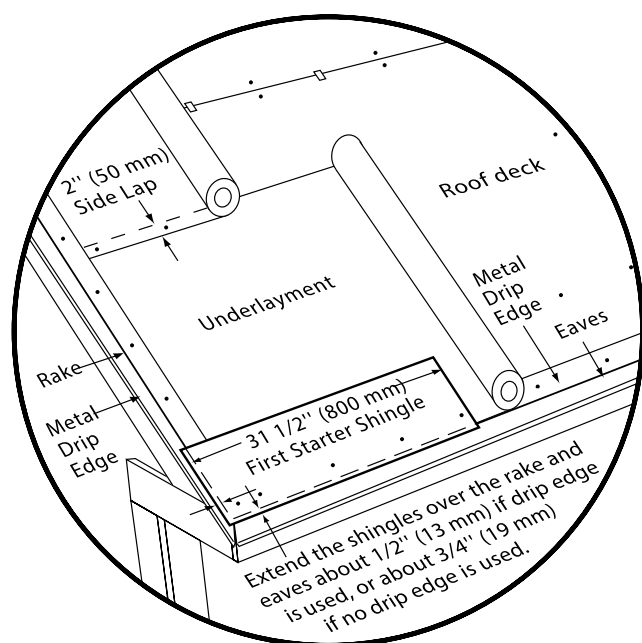

Figure 17-8: Standard slope underlayment and starter drip edge details.
- ◆ For both shingle styles, cut 4-1/2" off the length of the left side of the first starter strip and apply at the lower left corner of the roof. This 31-1/2" starter strip should overhang the rakes and eaves 1/2" when drip edge is used or 3/4" when no drip edge is used. Continue with full 36" lengths of starter strips all along the eaves (Figure 17-8).